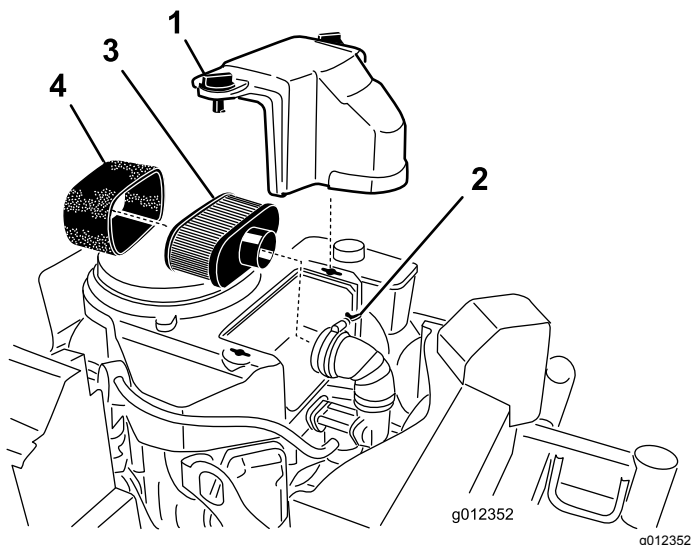

Figure 30
2. Clean around the air cleaner to prevent dirt from getting into the engine and causing damage (Figure 30).
3. Rotate the cover knobs 1/4 turn counterclockwise and remove the air-cleaner cover (Figure 30).
air-cleaner assembly from the inlet duct (Figure 30).
5. Carefully pull the foam element off the paper element (Figure 30).
1. Inspect the element for tears, an oily film, or damaged (Figure 30).
1. Inspect the element for tears, an oily film, or damage to the rubber seal (Figure 30).
1. Carefully slide the foam element onto the paper air-cleaner element (Figure 30).
2. Align the air-cleaner assembly onto the inlet duct and secure it with the hose clamp (Figure 30).
3. Align the air-cleaner cover onto engine cover and secure the cover by rotating the cover knobs 1/4 turn clockwise (Figure 30).